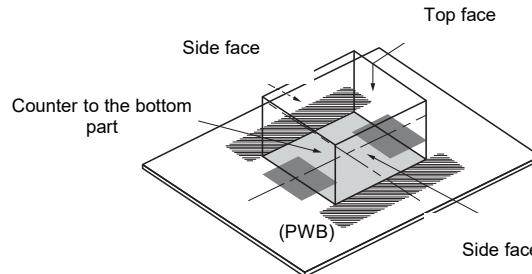

Fig.2
- Keep a component placed around the inductor from being in contact with the surface (top face, side face) of the inductor. (MC series) \* Fig. 2